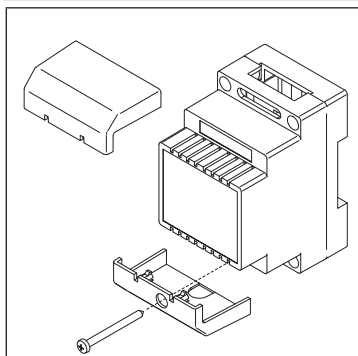
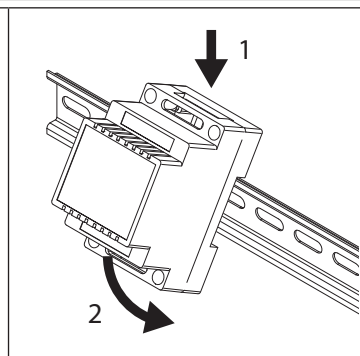
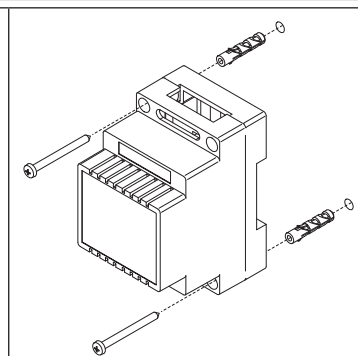
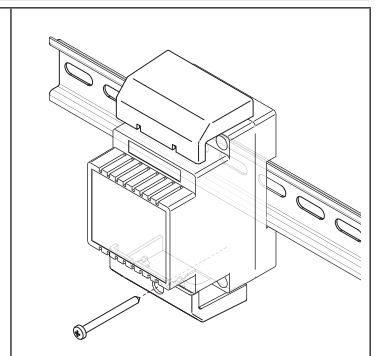

Fig. 3
Fig. 4
Fig. 5
Fig. 6
3. Put the base of the unit on the wall at approx 135cm from the finished floor (**Fig. 3**) to match the points for the fixing holes (B) (**Fig. 4**) remembering that the wires (E) (**Fig. 4**) must be fed through the large hole (F) (**Fig. 4**). If you use the flush mounting box 503, embed it into the wall vertically at approx. 140cm from the finished floor and the base.
4. Following **Fig. 4**, make the holes (B), insert the wall plugs (C) and fix the base with the screws (D) feeding the wires (E) through the hole (F). If you have used the box 503, fix the base to the wall through the holes (G) using the screws (D).
5. As shown in **Fig. 5**, connect the wires to the removable terminals following the provided installation diagram. Connect the terminal blocks to the electronics contained in the cover as shown in **Fig. 6**. Test system before closing. Contrast and hue trimmers can be adjusted only if the videophone is open. To activate the display and see changes use the "Camera Recall" function by pressing  button.
1. Remove the terminal side covers by unscrewing the retaining screws (Fig. 3);
2. Fix the power supply to a DIN rail (Fig. 4) or directly to the wall using two expansion type screws (Fig. 5);
5. When all connections are made replace and fix the terminal covers with the relevant screws (Fig. 6);
To give power supply to the module connect one of the inbuilt IDC male connector ① to the IDC male connector of the camera unit module through the flat cable provided. A further buttons expansion module can be connected to the free IDC male connector of the previous expansion module (**Fig. 3**).
Apply the (Y) seal as shown in **Fig. 6**.